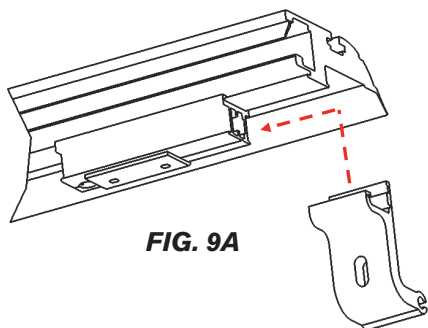
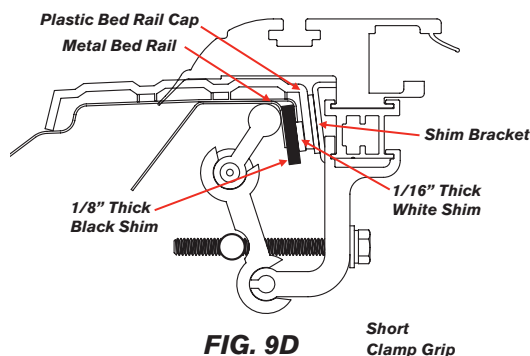

FIG. 9A
FIG. 9D
- Secure the rails to the truck bed by installing two clamp assemblies per rail. Slide the Clamp Grip onto the Clamp Extension toward the Shim Bracket (FIG 9A and 9B). Then, assemble the rest of the clamp parts as shown below (FIG 9D).
- In order to provide the best support for the rail, shims have been included to fill voids in the bed construction. Peel the backing from the adhesive and place the 1/8" Black Shim behind the Rail Shim Bracket between the double wall of the Metal Bed Rail. Next, peel and stick the 1/16" White Shim between the Black Shim and the Plastic Bed Rail Cap. (Fig. 9D)